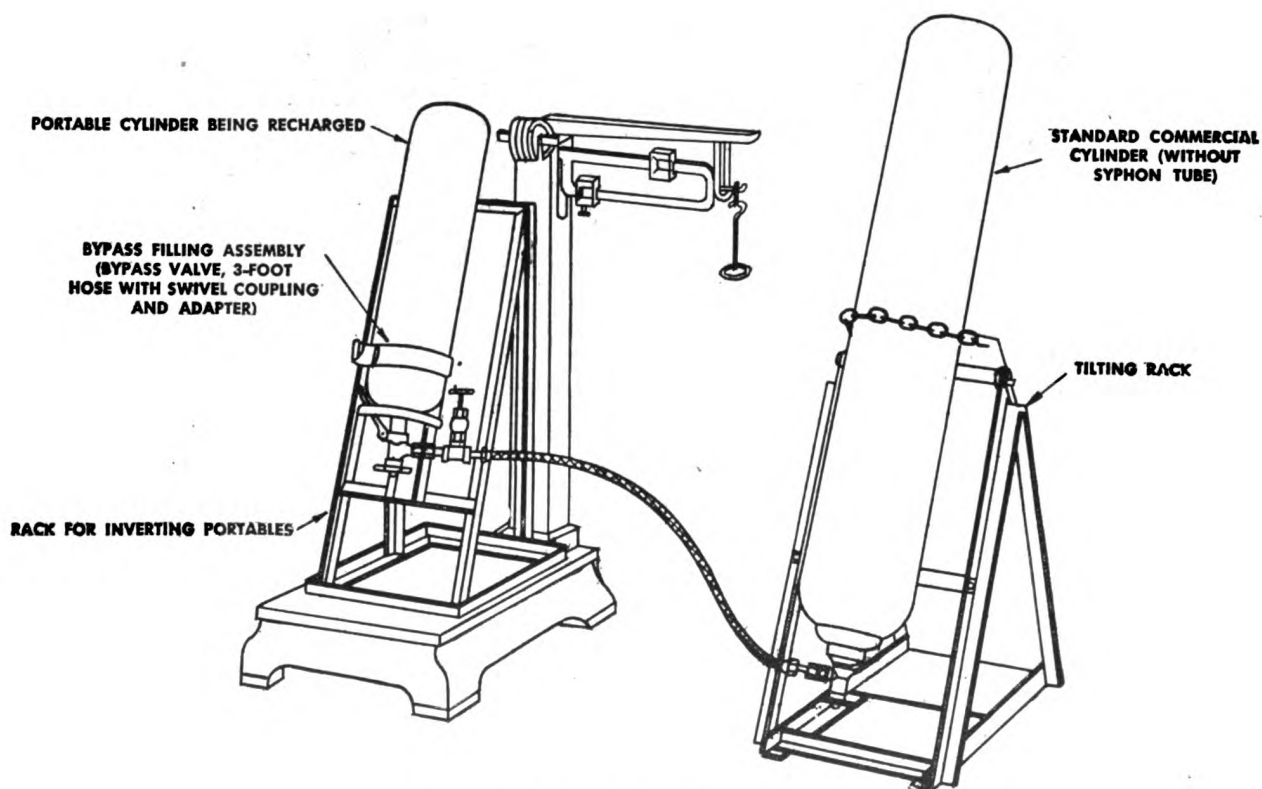
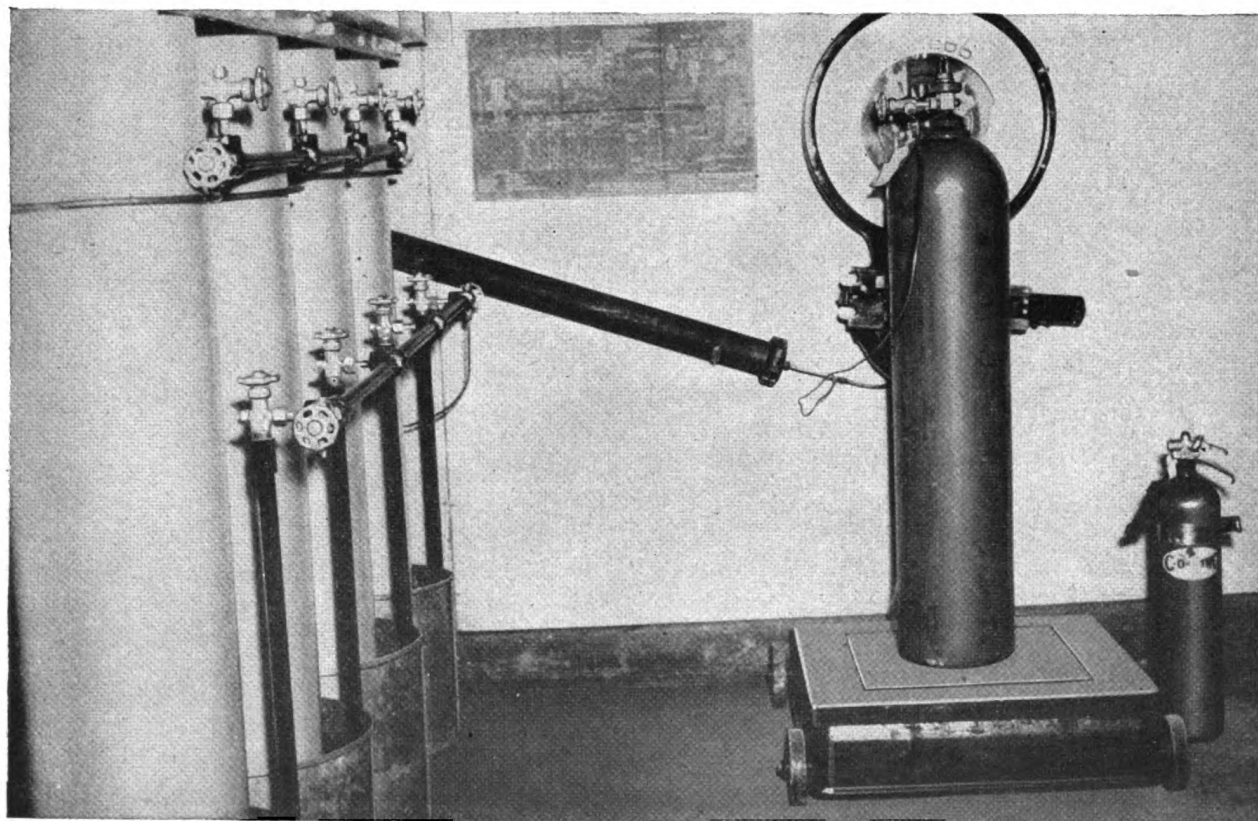

Figure 37. Bypass filling unit in operation.
Figure 38. Dry-ice converter in operation. (Stock No. 66-3520.500-000.)
(1) To recharge carbon dioxide portable units, use standard 50-pound carbon dioxide supply cylinders inverted and connected to the extinguisher by the bypass assembly. (See fig. 37.)
(2) Place extinguisher on a platform scale horizontally or preferably inverted. A spring-balance scale may be used instead of the platform scale. For more efficient transfer, see that extinguisher cylinder being recharged is kept cooler than the supply cylinder.
(3) With valve on extinguisher open, open valve on supply cylinder until a few pounds of carbon dioxide are admitted.
(4) Close valve on supply cylinder and open bypass valve in hose to allow carbon dioxide to flow out of portable extinguisher to atmosphere. This cools the extinguisher and permits a faster transfer of gas because of the difference in temperature between supply cylinder and extinguisher.
(5) Close bypass valve and open valve on supply cylinder again until extinguisher is filled. If extinguisher does not take a full charge, repeat operation in (4) above to cool cylinder further.
(6) Close valve on supply cylinder, then close valve on extinguisher. Bleed bypass filling assembly of gas and disconnect it.
(7) In practice, after two hand extinguishers are charged from a single supply cylinder, the pressure difference is enough for only a small amount of gas to enter a third cylinder. Use these nearly depleted supply cylinders to put a few pounds of carbon dioxide in an empty extinguisher. Then release this gas to atmosphere, cooling the extinguisher and providing enough temperature difference so carbon dioxide can flow down from a new supply cylinder at room temperature.
d. DRY-ICE CONVERTER. The dry-ice converter (fig. 38) is supplied in 300- and 600-pound sizes, both well suited for filling hand and wheel type extinguishers. This recharging method is probably the simplest of any described.